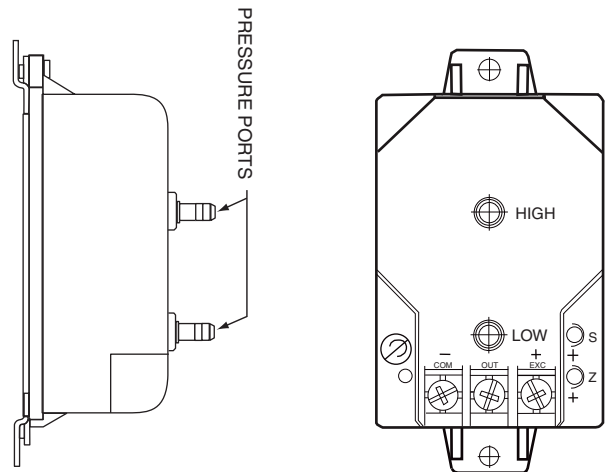

**Fig. 52 — Condenser-Fan Adjustment
3. See Fig. 52 and adjust fan height using a straight edge laid across the fan deck.